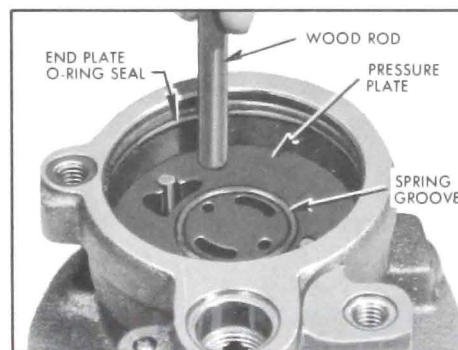

Figure 8-75—Seating Pressure Plate in Housing
8. Lubricate the outside diameter and chamfer of pressure plate with petroleum jelly and install on dowel pins with ported face toward pump ring. Dowel pins fit into slots in plate that are nearest outside diameter of plate. Use a soft plastic or wood rod and lightly tap around outside diameter of pressure plate to seat it. See Figure 8-75. Pressure plate will travel about 1/16" to seat. Never press or hammer on the
9. Install new end plate O-ring seal in groove in bore of housing. Be sure not to install it in end plate retaining ring groove which is first groove from rear of housing. See Figure 8-75.